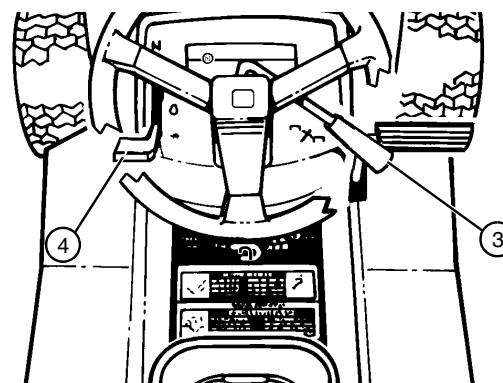

FIG. 18
- Move throttle lever (4) to fast detent position. (See FIG. 18)
- Push PTO drive lever (3) forward to start blades.